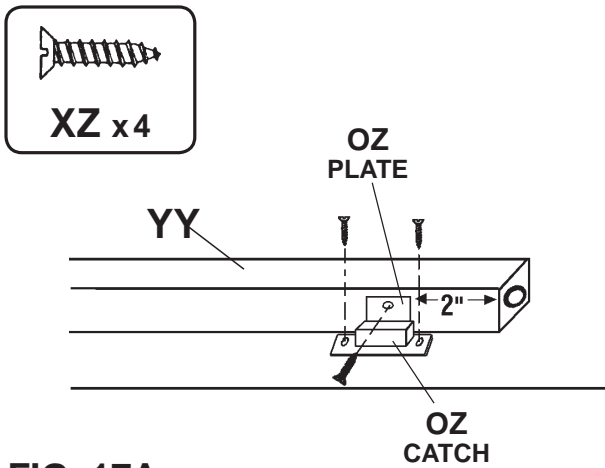

FIG. 17A
17) Lay leg assembly flat against the table. Measure 2" up from the bottom of the Leg (YY) on an inside edge and fasten Magnetic Catch Plate (OZ) to inside of leg. Attach Magnetic Catch (OZ) to bottom of table so that it makes contact with the catch plate. Use the small screws provided with the catch. See FIGURE 17A.